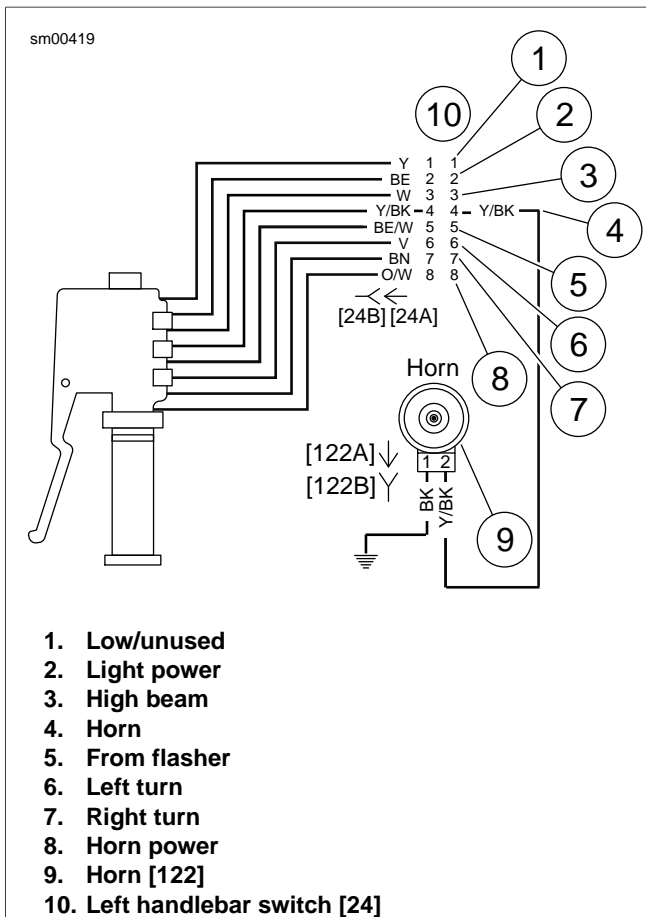

Figure 6-42. Horn Wiring
5. Remove horn (1) from support bracket (4).
6. See Figure 6-42. Detach Y/BK power wire and BK ground wire from terminal clips on horn.
1. See Figure 6-42. Connect Y/BK power wire and BK ground wire to terminal clips on horn.
- a. See Figure 6-42. Remove Y/BK power and BK ground wires from terminal clips.